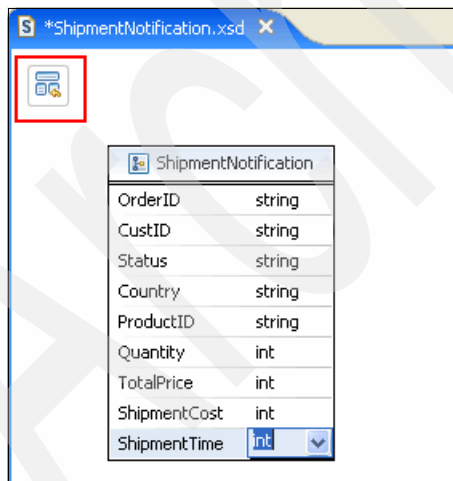

Figure 9-20 Elements in Shipment Notification
- Add the elements as shown in Figure 9-20. When finished, click the icon in the left corner of the page (highlighted in Figure 9-20).